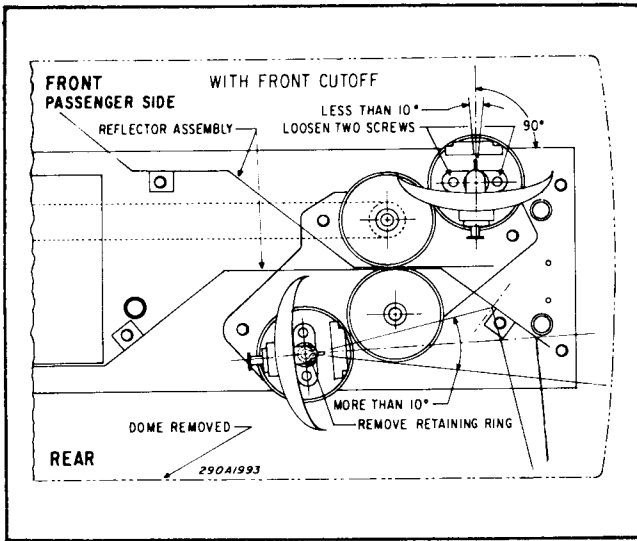

Figure 10. Reflector Assembly Adjustment.
- b. On units with front cut-off, the front reflector assembly should be perpendicular to the front of the light bar. The rear reflector should be aimed at the center of its mirror as shown in Figure 10.